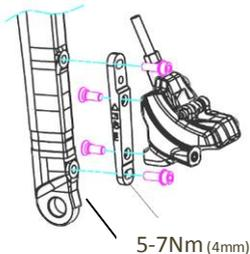

Fig. D-1 Align front-caliper with fork mounting holes.
- Assemble the adapter and front caliper together, tightening torque is 5-7 Nm(4mm) **(Fig. D-1)**